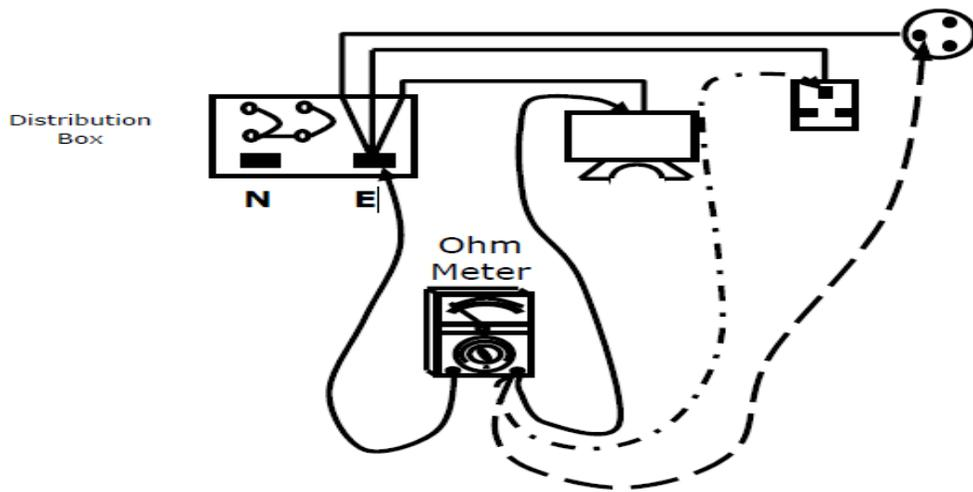

Figure 6.1 : Protection Conductor Continuity Test (Surface Wiring)
2. Connected the test leads as in the Figure 6.1